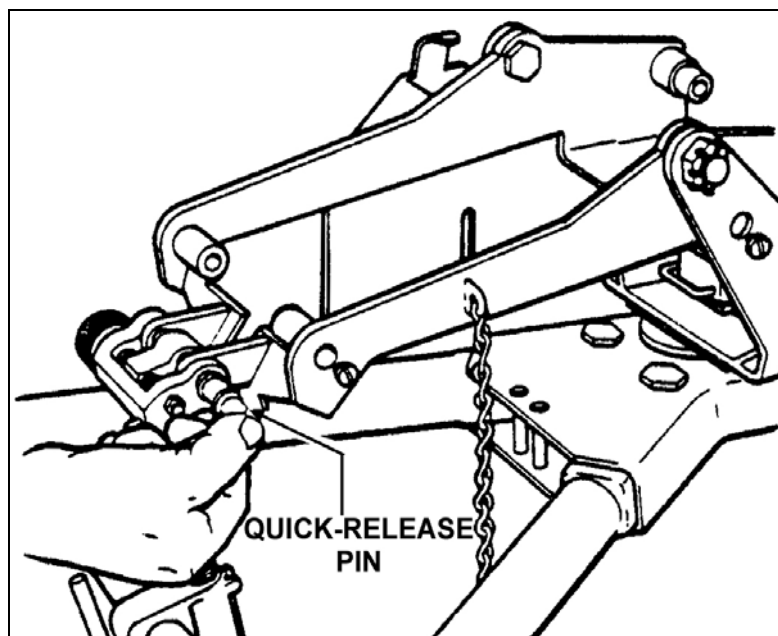

Figure 3-7. Quick-release pin.
- (4) Lock the elevating sleeve mechanism onto the center of the traversing bar.
- (5) Insert the quick-release pin from the right (Figure 3-7).